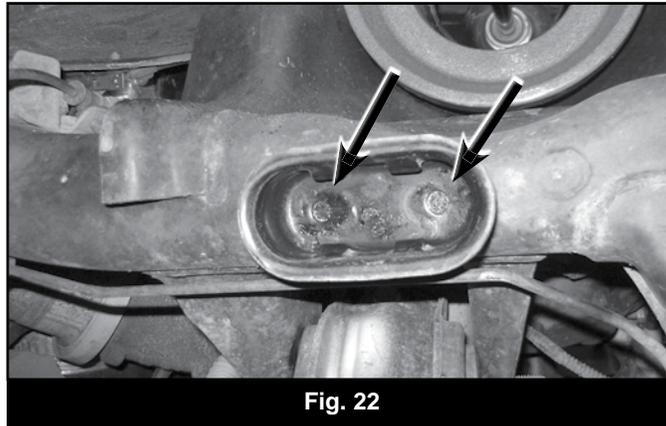

Fig. 22
51. Locate the center of the two circular recesses in the cup. Mark the centers and drill out to 5/16"~21/64". Install the 3/8" x 1-1/4" self threading bolts to cut threads into the frame. Remove the bolts after the threads are cut. BP# 784 (Fig 22)